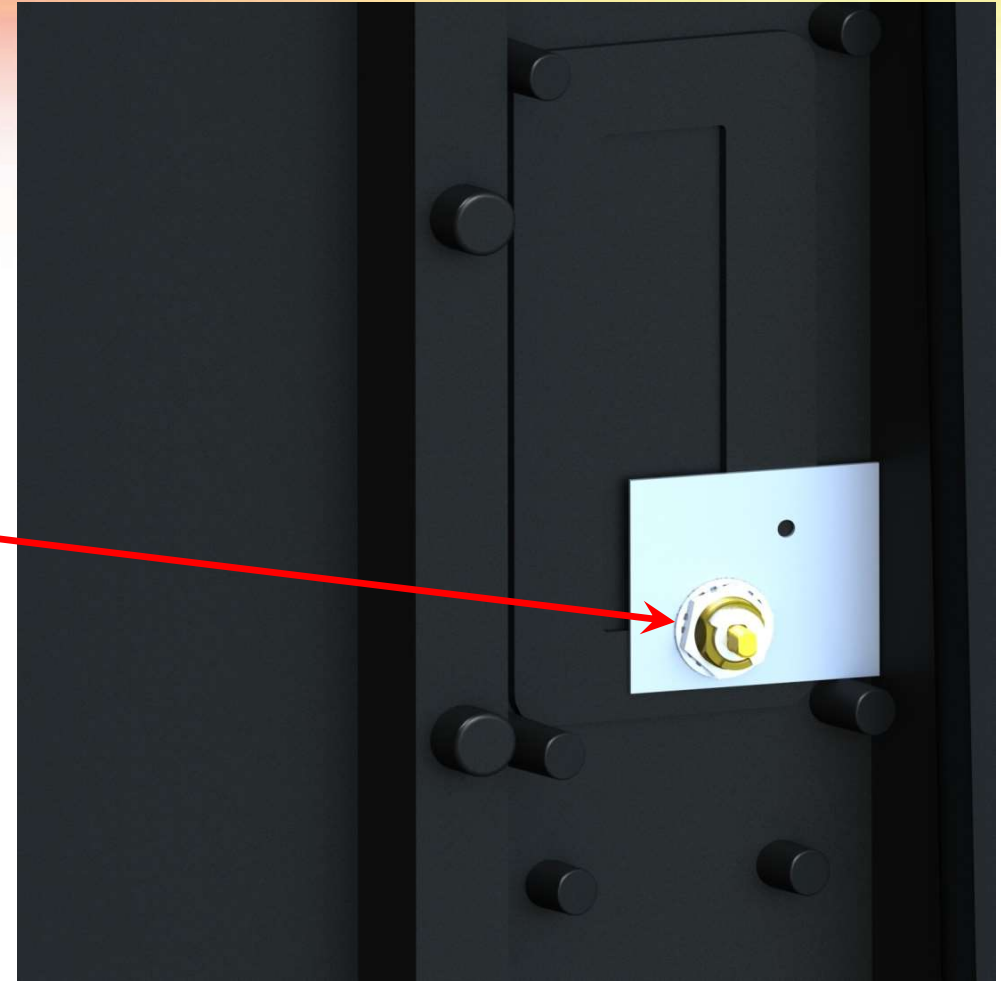

Figure 4
Assemble Mounting Plate (F), Lock Washer and secure with Cylinder Nut (D) (Fig 4).